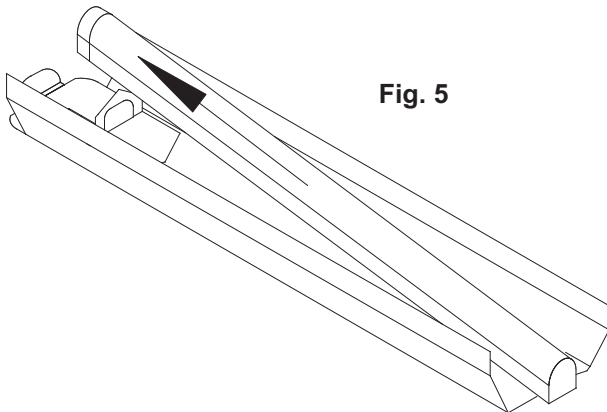

Fig. 5
- Slide it back out over the mount and continue until light fitting is removed (**Fig. 5**).